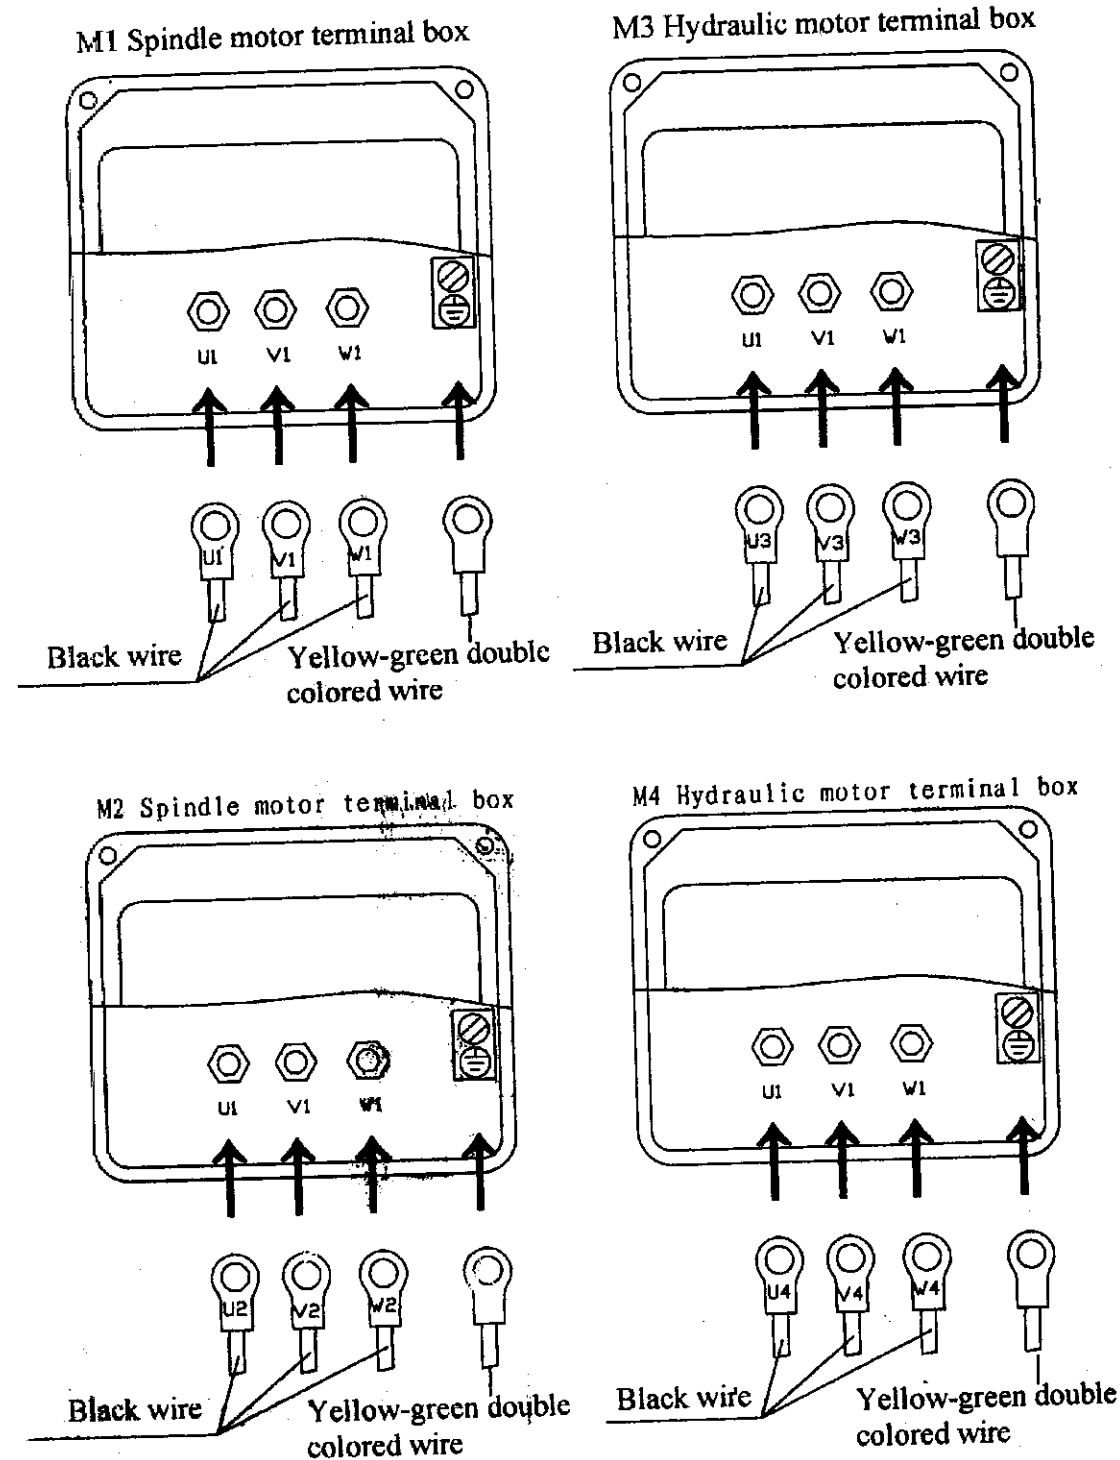

Fig. 2.5 Motor wiring layout
2.3.6.1 The installation of rising-falling motor (Fig. 2.5): Install the motor properly, and tighten the bolts, open the cover of motor terminal head, connect the wires according to their line number, close and tighten motor terminal head cover.
2.4.7.2 The installation of hydraulic motor (Fig. 2.5): Correctly install the motor and fasten the bolts, open the cover of motor terminal head and connect the wires according to their wire number, close and fasten the cover of the terminal head.
2.4.7.3 Mount the master motor (Fig. 2.5): Correctly install the motor and fasten the bolts, open the cover of motor terminal head and connect the wires according to their wire
2.4.7.4 Install the cooling pump motor (Fig. 2.5); Correctly install the motor and fasten the bolts, open the cover of motor terminal head and connect the wires according to their wire number, close and fasten the cover of the terminal head.